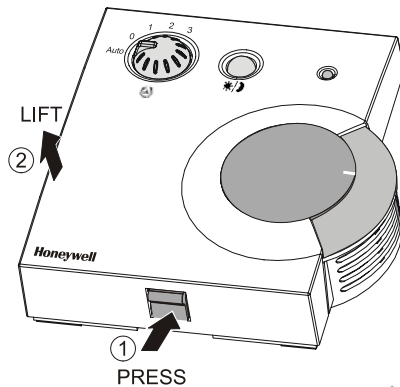

Fig. 1. Cover disassembly
The cover of the wall module is fixed in place using a tab located on the underside of the unit; to disassemble the cover and the subbase, see Fig. 1.
1. Disassemble the cover as is shown in Fig. 1.